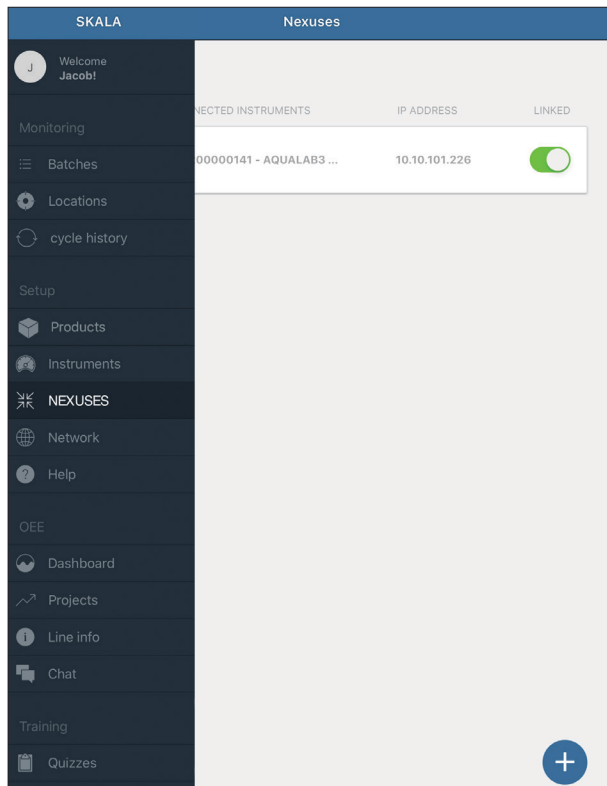

Figure 26 NEXUSES window
2. Select NEXUS in the menu under Setup to open a window with a list of currently registered NEXUSES (Figure 26).
3. Select the plus symbol on the NEXUES screen to register another NEXUS (Figure 26).